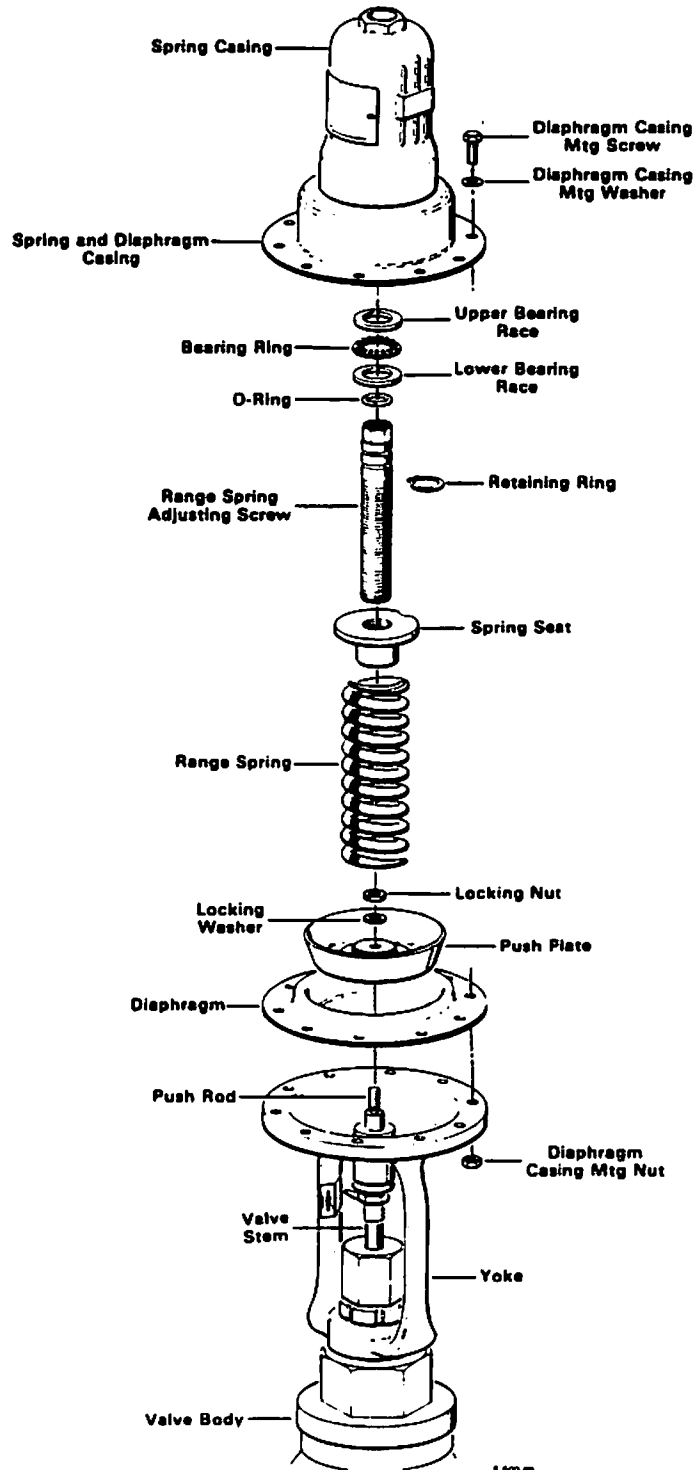

Figure 23. Exploded View of Air-to-Raise Actuator
4. Loosen and remove all diaphragm casing mounting screws, nuts and washers, Figure 23.
- Unscrew spring casing with adjusting screw from diaphragm casing, Figure 23.